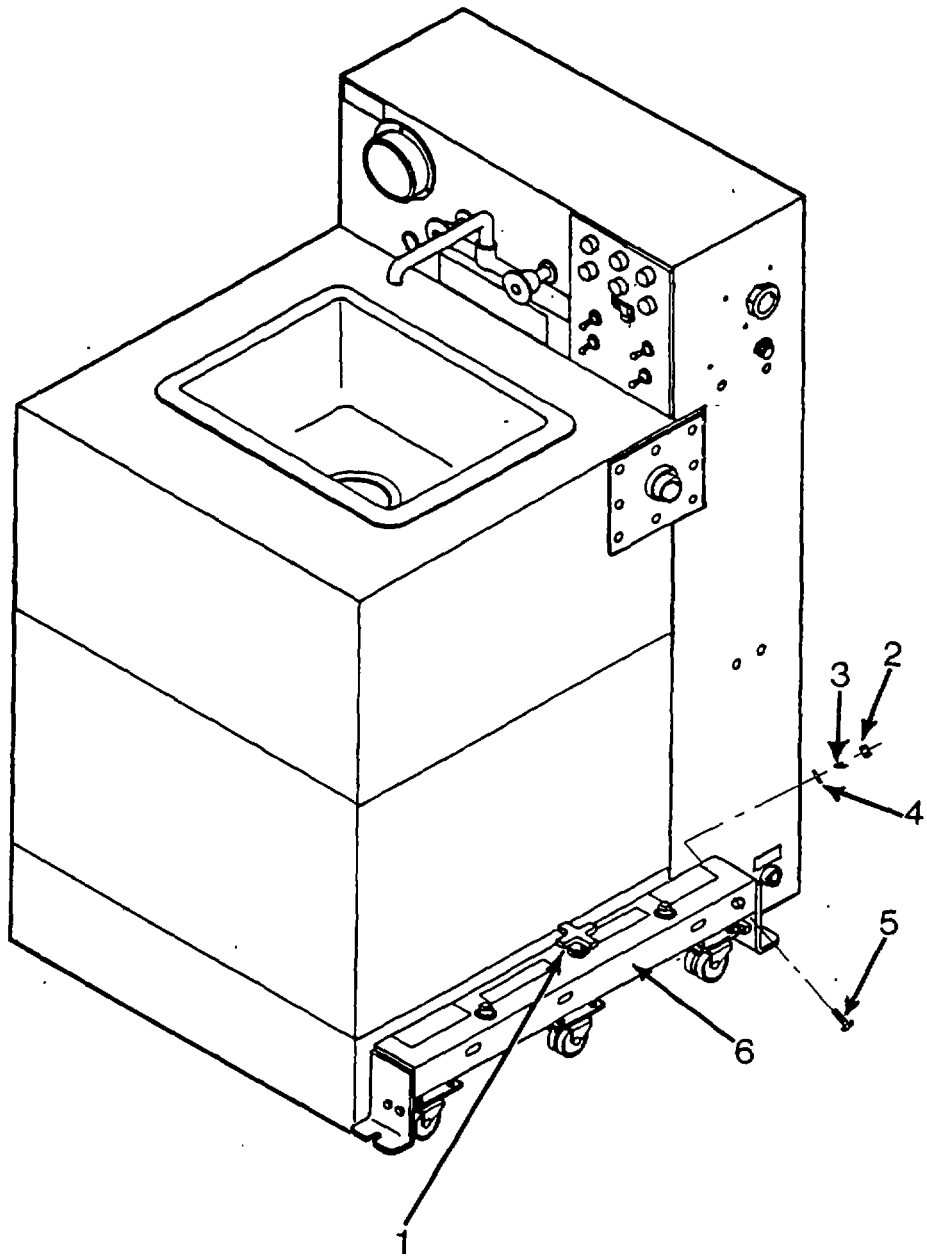

Figure 4-31. Replace Transporter Assembly
- o. Repair by replacing transporter assembly. (See Figure 4-31.)
- (1) Drain fresh water and gray water tanks. Refer to paragraph 2-14.